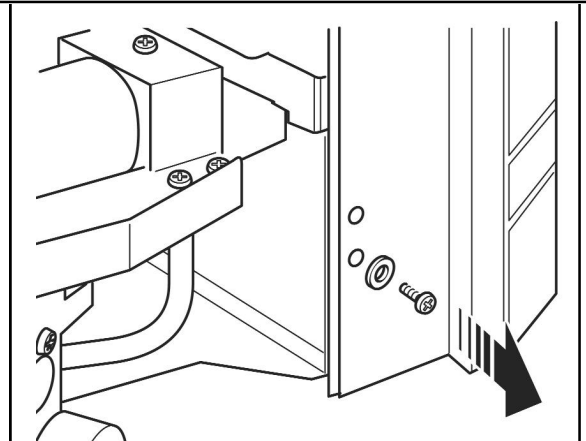

Figure 37. Removing the fascia fixing screws (Shown with Bolero fascia)
2. Remove the two screws securing the bottom of the fascia to the sides of the hotbox (See figure 37). On the Bolero there is also two washers.